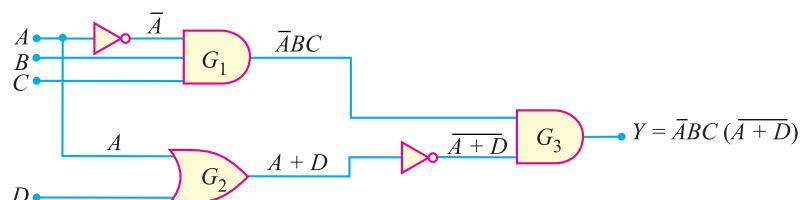

Fig. 26.39
**Example 26.22.** Write the Boolean expression for the logic circuit (digital circuit) shown in Fig. 26.39.